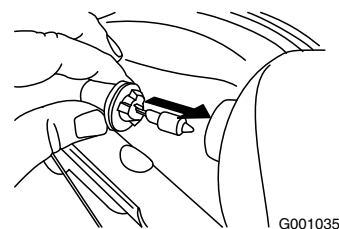

Figure 55
4. Insert a new bulb into the back of the headlight (Figure 55).